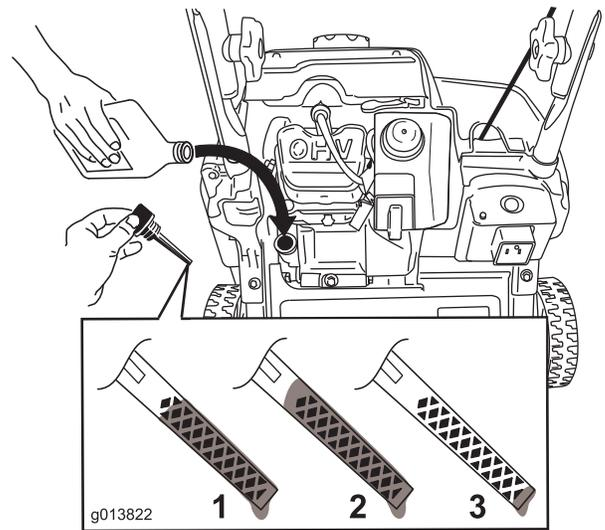

Figure 7
Note: Fill the engine crankcase with oil until the dipstick indicates that the engine oil level is correct as shown in Figure 7. If you overfill the engine with oil, remove the excess oil.
2. Clean around the oil-fill cap (Figure 7).
Note: To determine the proper oil level on the dipstick, refer to Figure 7.